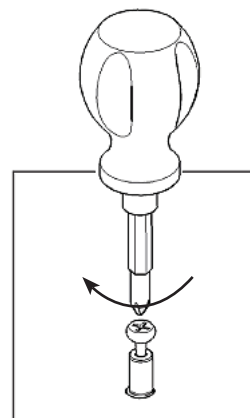

Figure 1
Insert Cam Lock Screws into the pre-drilled holes in Side Panels (B), (C), Front Posts (K), (L) and Front Rail (F). (see Figure 1)